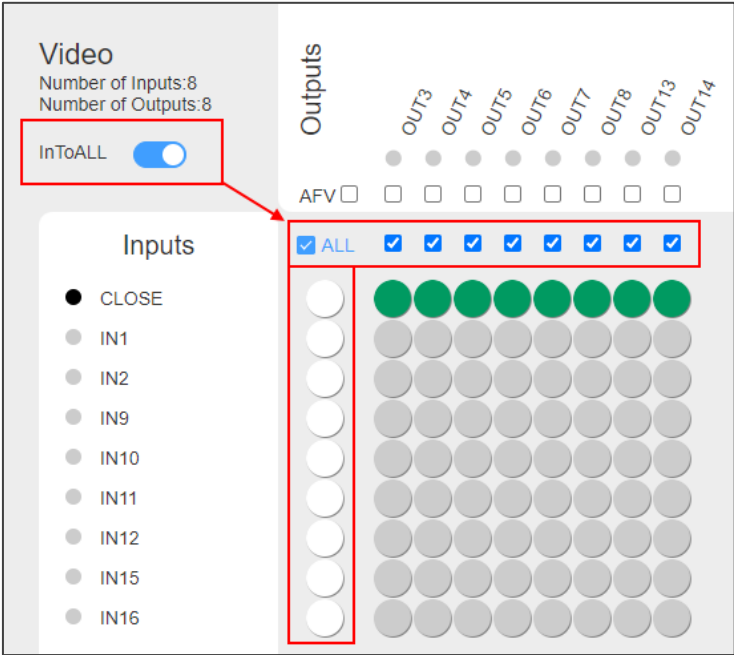

Figure 32: Routing Settings Page – InToALL Enabled
To turn off all outputs, click **InToALL** and click the circle under the ALL checkbox that corresponds to CLOSE (Figure 32).
-  To turn off all outputs, click **InToALL** and click the circle under the ALL checkbox that corresponds to CLOSE (Figure 32).